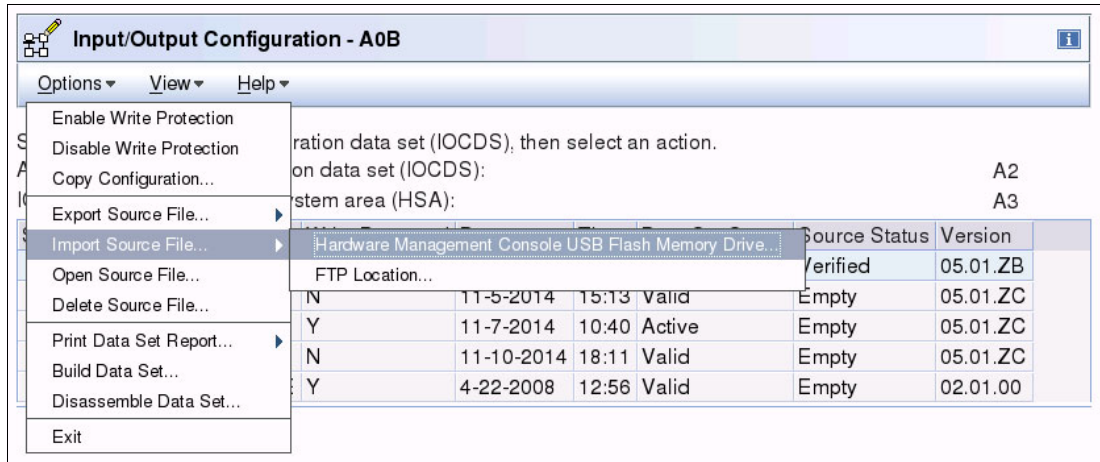

Figure 8-120 HMC - SAIOCP: import source file
12. Click **Options** → **Import Source File** → **Hardware Management Console USB Flash Memory Drive** (Figure 8-120).